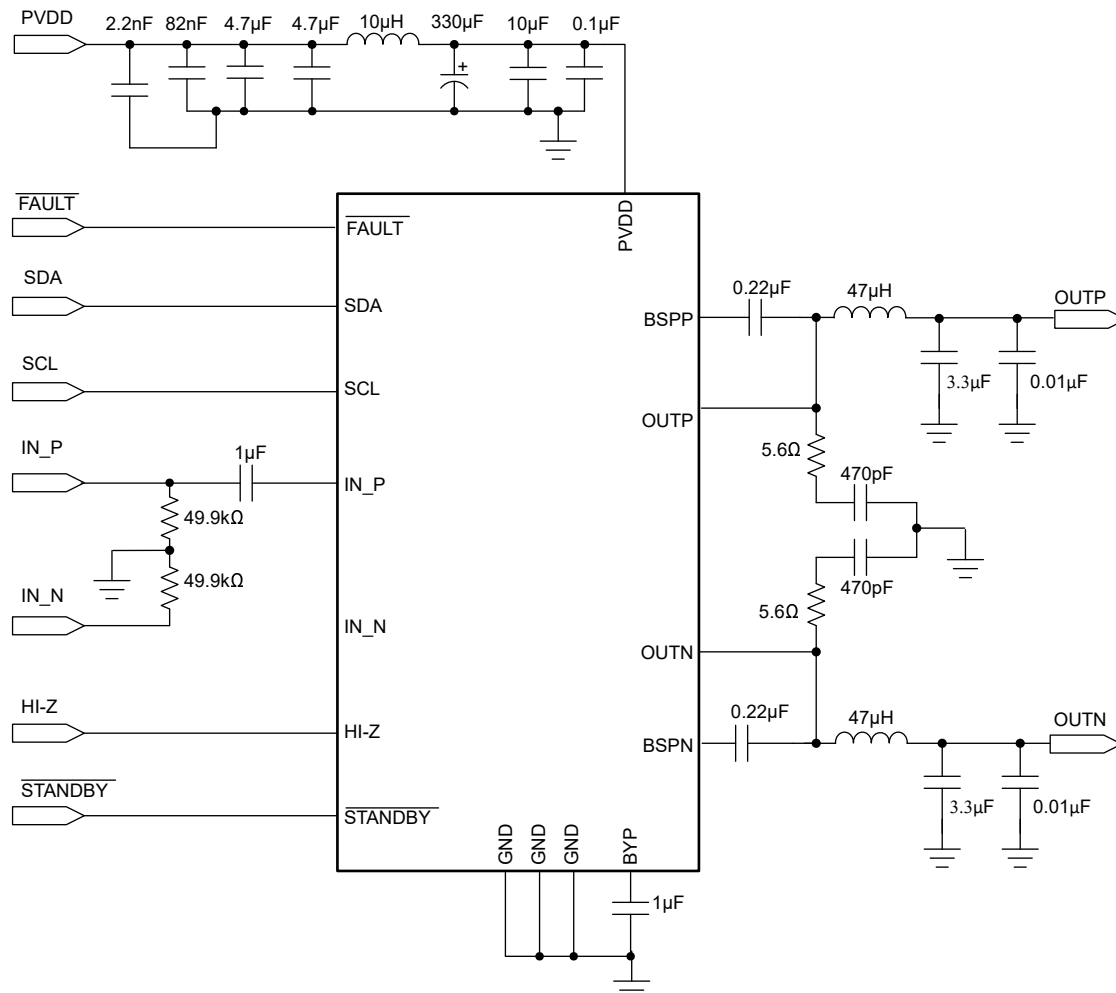

Figure 8-1. TSD5402-Q1 Typical Application Schematic
The output stage uses dual NMOS transistors; therefore, the circuit requires bootstrap capacitors for the high side of each output to turn on correctly. The required capacitor connection is from BSTN to OUTN and from BSTP to OUTP as shown in Figure 8-1.
- Step 1: Hardware Schematic Design: Using the Figure 8-1 as a guide, integrate the hardware into the system schematic.